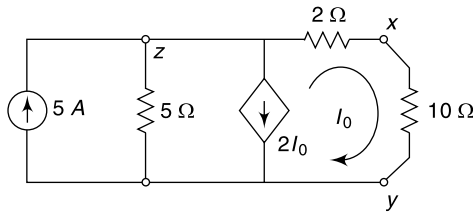

Fig. 4.184
23. In the network shown in Fig. 4.184, find Thevenin's equivalent network across $x - y$ terminals. [Ans: $V_{oc} = V_{x-y} = 25$ V; $R_{Th} = 17$ Ω]